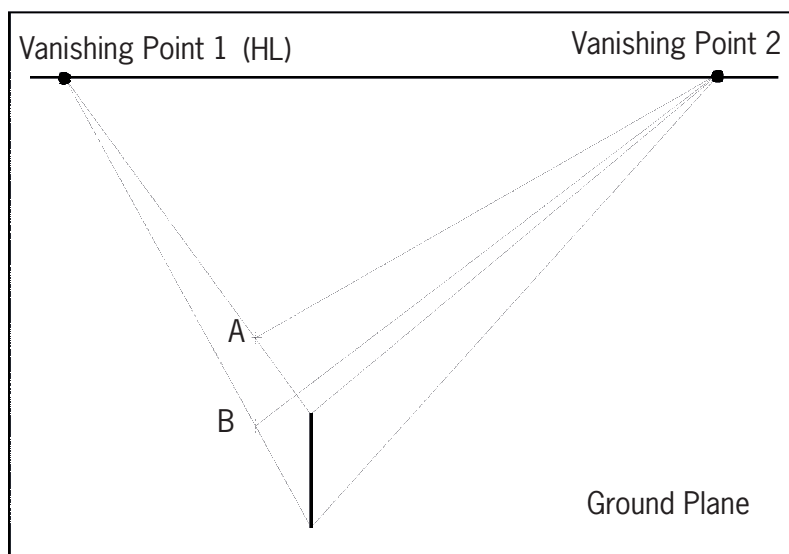

Figure 5
- (a) Once you have done this, you have to mark off another edge of the block on the construction lines as indicated in Figure 5 at A and B.